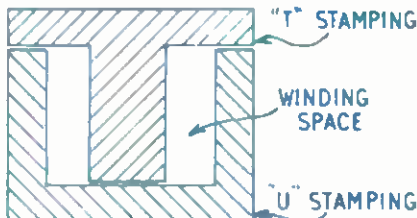

Fig. 1—How the core is made
plates stamped out in a suitable size. (T) and (U) stampings are most usual, as shown in Fig. 1, several dozen being lain one upon another to make up sufficient thickness for the completed core.